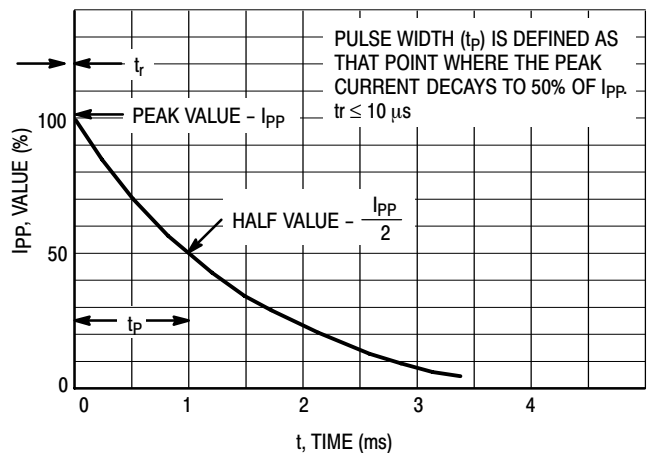

Figure 5. Pulse Waveform
1. Nonrepetitive current pulse per Figure 5 and derated above $T_A = 25^\circ\text{C}$ per Figure 2.
7. Surge current waveform per Figure 5 and derate per Figures 1 and 2.